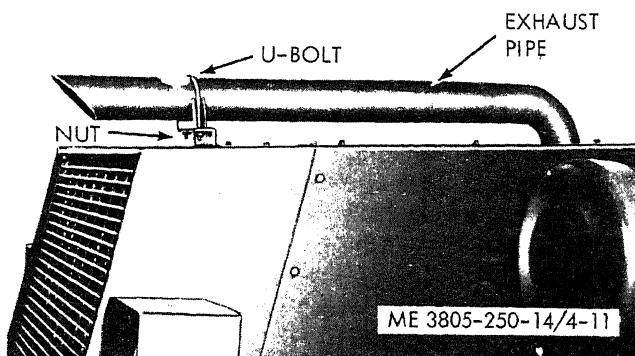

Figure 4-11. Exhaust pipe, removal and installation.
(1) Inspect the exhaust pipe for an accumulation of dirt or any foreign matter in the passage.
(2) Check for signs of corrosion and for holes in the pipe.
(3) Ensure that the pipe is held securely in position.
c. Removal. (fig.4-11).
(1) Remove two nuts and lockwashers from the threaded ends of the U-bolt.
(2) Loosen the clamp securing the exhaust pipe to the exhaust elbow.
(3) Lift the exhaust pipe up from the loader, carefully working the exhaust elbow end through the hole on top the hood.